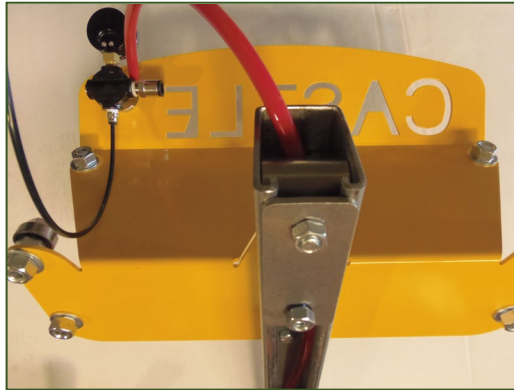

Fig 33
2. Remove the rear plumbing bracket located at the upper end of the Clamp Arm. (Fig 33)